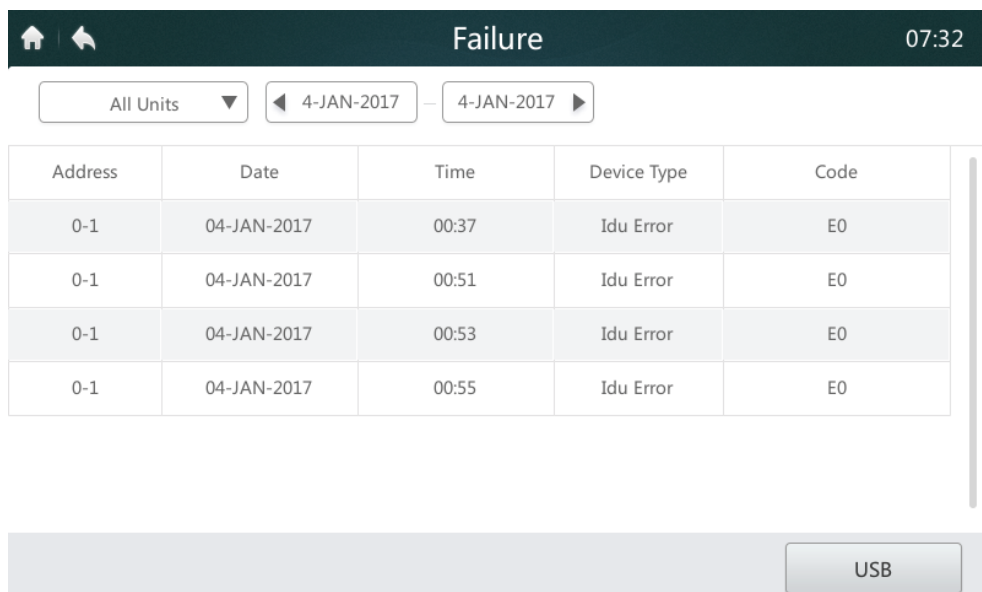

Figure 31 Homepage 2 of the Report page
3. If there is a historical fault record in the system after the start date and end date are selected, the interface shown in Figure 31 will be displayed.
- Insert the USB storage device and tap the "USB" button marked "1" in Figure 31. The fault data will be exported to the mobile device in "csv" format. The fault data content includes the address, date, time, model and error code (as shown in the above figure) to facilitate queries. The screen will display the success message after the data is exported successfully, as shown below.